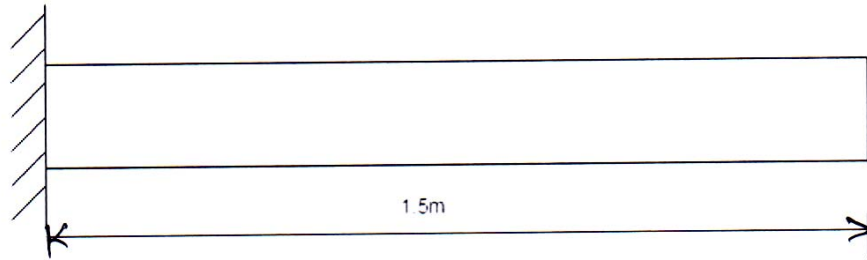

Fig. 4
- Q8) a) The bar shown in Fig. 4 having uniform cross-section with cross-section area $A = 50 \times 10^{-6} \text{ m}^2$, length $L = 1.5 \text{ m}$, modulus of elasticity $E = 2 \times 10^{11} \text{ N/m}^2$ and density $\rho = 7800 \text{ kg/m}^3$. Estimate the natural frequency of bar. Model the bar by using two elements. [12]